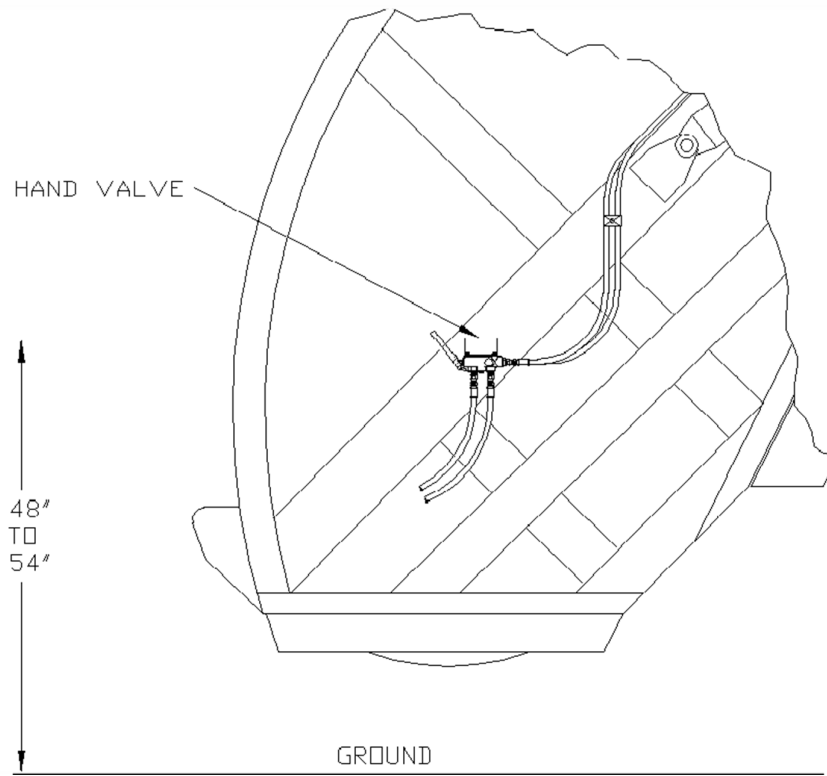

Figure I-2
1. Choose and mark an acceptable location(s) on the side(s) of the truck to mount the hand valve assembly(s) (figure I-2).